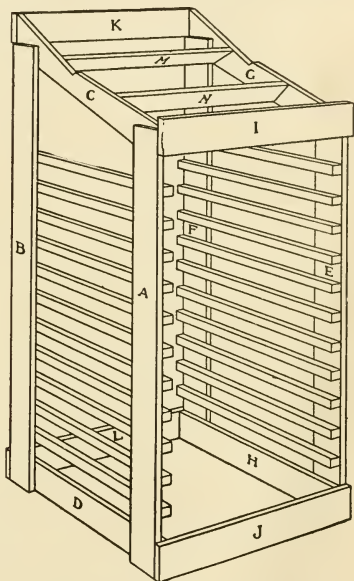

FIG. 148.—A Type-case Rack.
**A Rack for the Type-cases** until you have added several styles of type to your outfit. Then you will find a rack such as is shown in Fig. 148 one of the best methods of keeping the type away from the dust and at the same time in an accessible place.
fastened together by means of the crosspieces shown in Fig. 148. Measure the width of your cases, which varies somewhat with different makes, and set the frames about half an inch farther apart than this width. Then cut the boards *I*, *J*, *K*, and *L* the correct length and nail them to the places shown upon the drawing. Strips